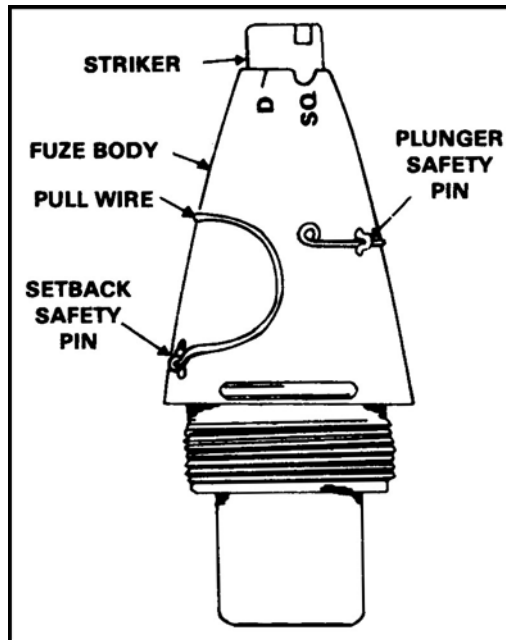

Figure 1. Round identification.
1. Identify rounds (Figure 1).